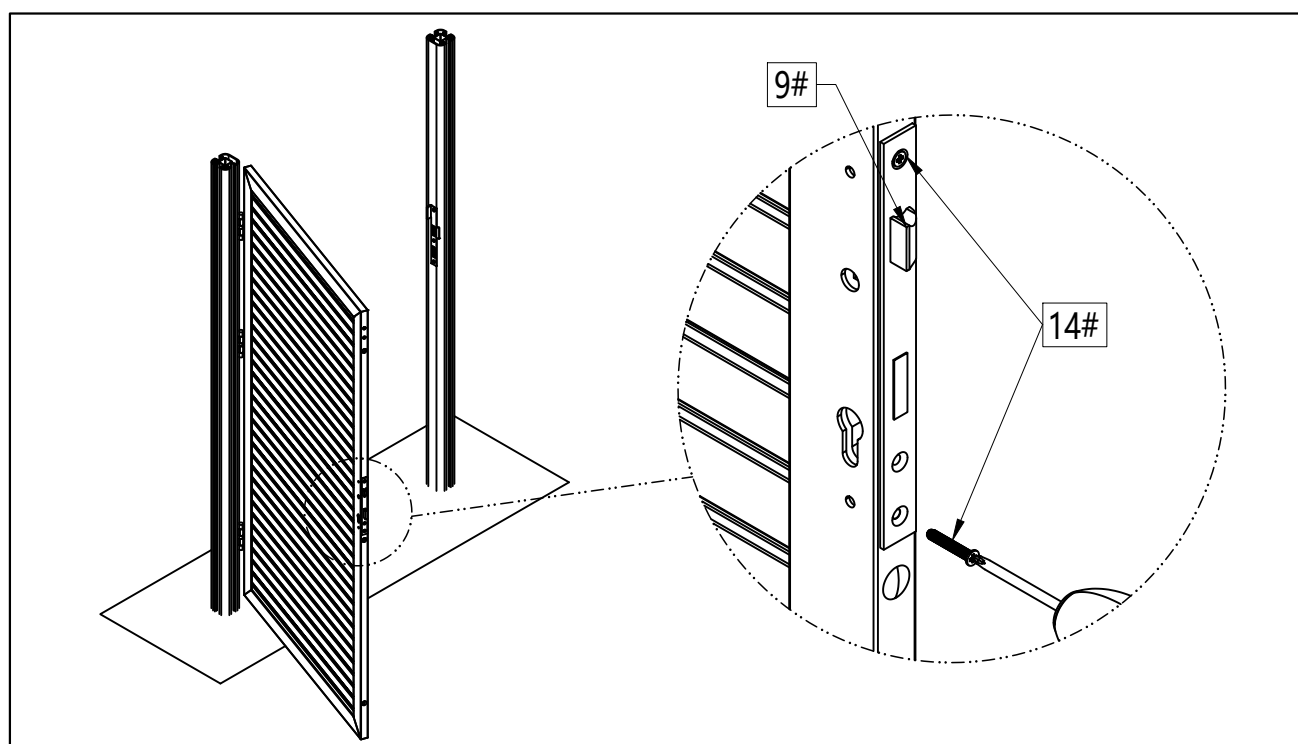

Figure 12.3
- 12 Install the Lock Case (9#) with correct facing latch onto the Fence Gate (1#) with Screws (14#), as shown in Figure 12.3.